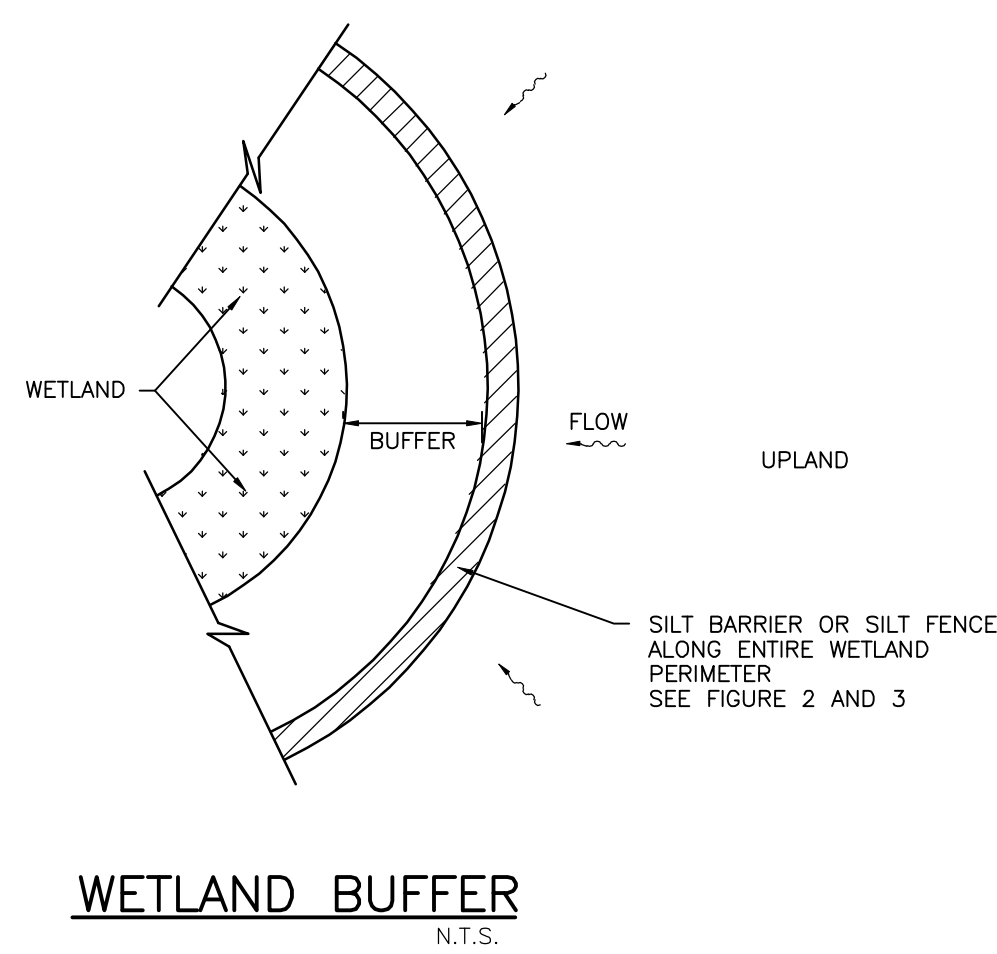

FIGURE 1
- A. "NO CLEARING WITH HEAVY EQUIPMENT, FILLING, OR PLACEMENT OF IMPROVEMENTS OR UTILITY LINES SHALL OCCUR WITHIN THE PROTECTED ROOT ZONE OF ANY CANOPY TREE TO BE SAVED, PER SECTION 54-588 (1) (B) OF SARASOTA COUNTY CODE. THE PROTECTED ROOT ZONE IS DEFINED AS THE DRIPLINE OF THE TREE. ONLY HAND CLEARING OR MOWING IS PERMITTED WITHIN THE PROTECTED ROOT ZONE OF CANOPY TREES TO BE SAVED IF AUTHORIZED BY THE ADMINISTRATOR. WHERE UNAUTHORIZED REMOVAL OF NATIVE VEGETATION WITHIN THE PROTECTED ROOT ZONE OCCURS THE ADMINISTRATOR MAY REQUIRE THE REPLANTING OF UNDERSTORY VEGETATION. FULL DRIPLINE PROTECTION IS REQUIRED; HOWEVER THE ADMINISTRATOR MAY ALLOW CERTAIN ACTIVITIES TO BE CONDUCTED WITHIN THE BARRICADED DRIPLINE OF A TREE, SO LONG AS THE COUNTY DETERMINES THAT THE TREE WILL NOT BE ADVERSELY AFFECTED.
- 1 WETLAND BUFFER (AS PER BEST MANAGEMENT PRACTICES DETAILS, FIGURE 1)